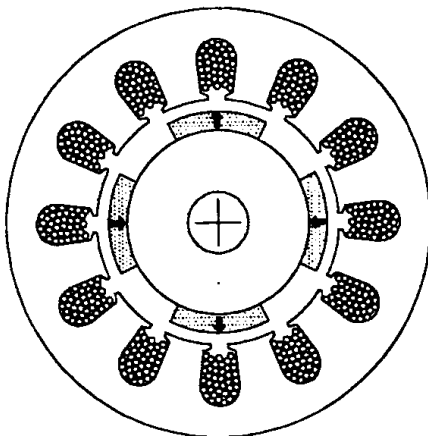

Figure 1
1. For the radial-field, 4-pole, 12-slot, surface-mounted permanent magnet machine shown schematically in Figure 1, the major dimensions and parameters are listed in Table 1, (full marks will not be given if the appropriate approximations are not specified)
- a. Derive the general expression for airgap flux density on load and on open-circuit (6)
- b. Calculate the magnetic loading (3)
- c. Calculate the tooth flux density and comment on the result (3)
- d. Calculate the back-iron flux density and comment on the result (3)
- e. Calculate the electric loading if the total ampere turns for the 3-phase windings are $NI=5000A$. (2)
- f. Calculate the electromagnetic torque (3)